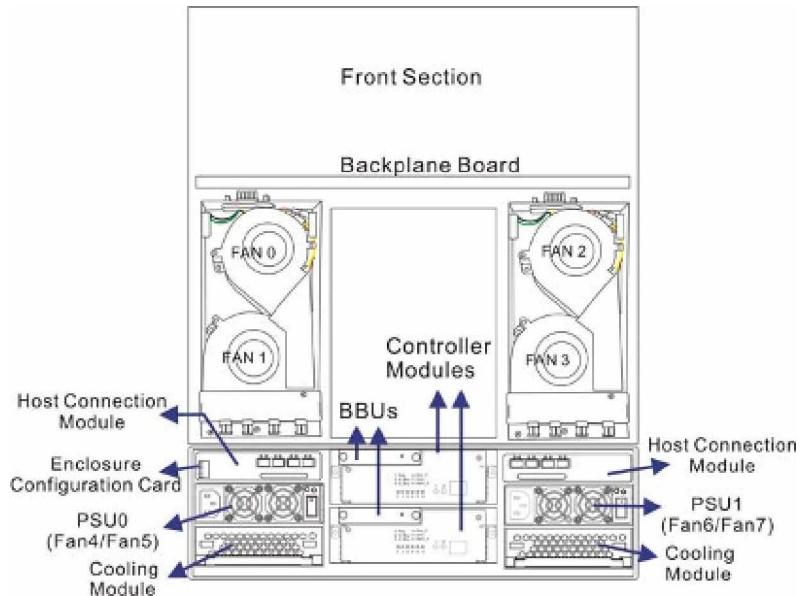
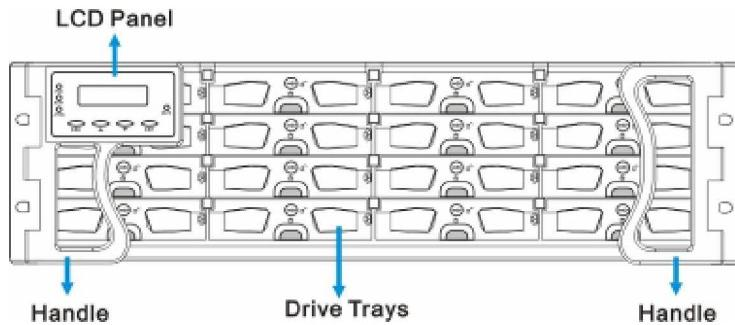
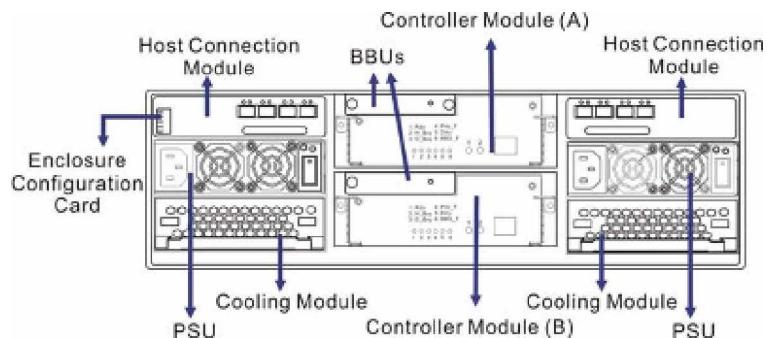

Figure 1-2: FALCON III Subsystem Overview
Figure 1-3: FALCON III Front View
Figure 1-5: FALCON III Rear View
The FALCON III RAID storage subsystem chassis is an enhanced 3U metal chassis divided into front and rear sections, which are respectively accessed through front (see **Figure 1-3**) and rear (see **Figure 1-5**) panels. Pre-drilled mounting holes in the sides of the 3U RAID subsystem enclosure allow you to attach separately purchased slide rails so that you can install the enclosure into a rack or cabinet. Please see **Figure 1-2** for the components' locations in the subsystem and read the following sections for the front and rear panels descriptions.
The front panel of the FALCON III RAID subsystem described in this manual is shown in *Figure 1-3*. A description of each front panel component is given below:
The front panel shown in *Figure 1-3* accommodates the following components:
The rear panel of the RAID subsystem described in this manual is shown in *Figure 1-5*. A description of each rear panel component is given below:
The rear panel shown in *Figure 1-5* accommodates the following components:
The FALCON III is equipped with two (2) redundant, hot-swappable, 460W PSUs, which are located at the rear of the enclosure. (See **Figure 1-5**) The PSU is permanently mounted into a 2U (dual-level) bracket especially designed to house both the PSU and a cooling module, which is mounted in the lower part of the 2U bracket. Hot-swapping the PSU requires the removal of the cooling module.